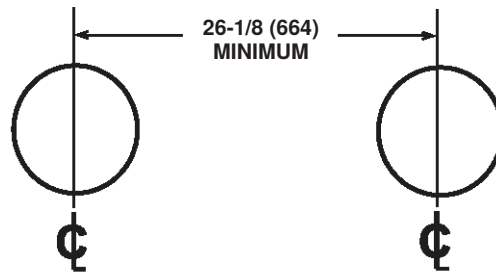

Figure 18. Hole Spacing for Two or More Furnaces
- c. When installing system with more than one furnace section, ensure that there is minimum of 26-1/8 inches (664 mm) between center lines of each terminal pipe. Prepare one hole per furnace with spacing as shown in **Figure 18**.